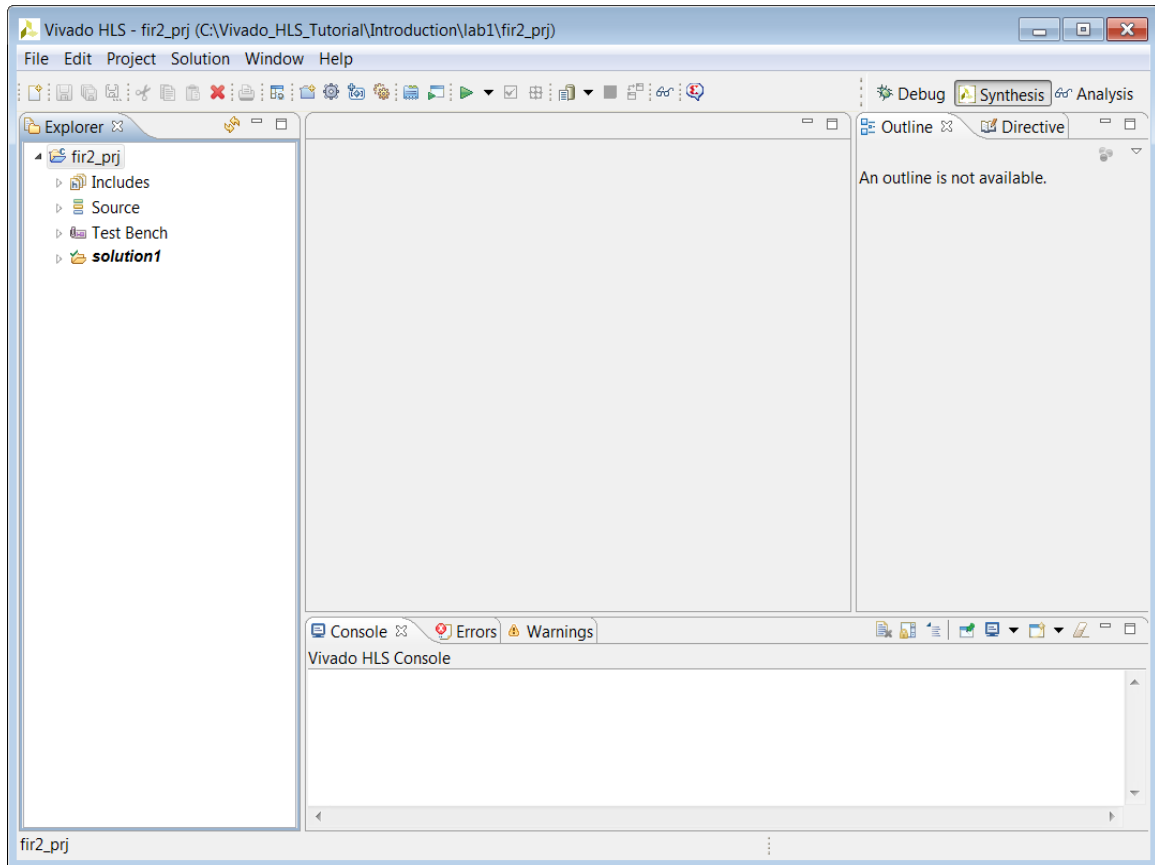

Figure 2-7: Vivado HLS Project (DM: New Figure)
12. Click **Finish** to open the Vivado HLS project, as shown in Figure 2-7.